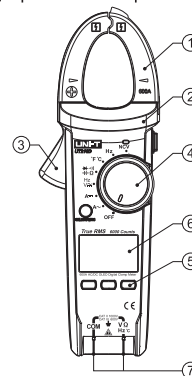

Fig. 1
V. External structure (please see Fig.1)